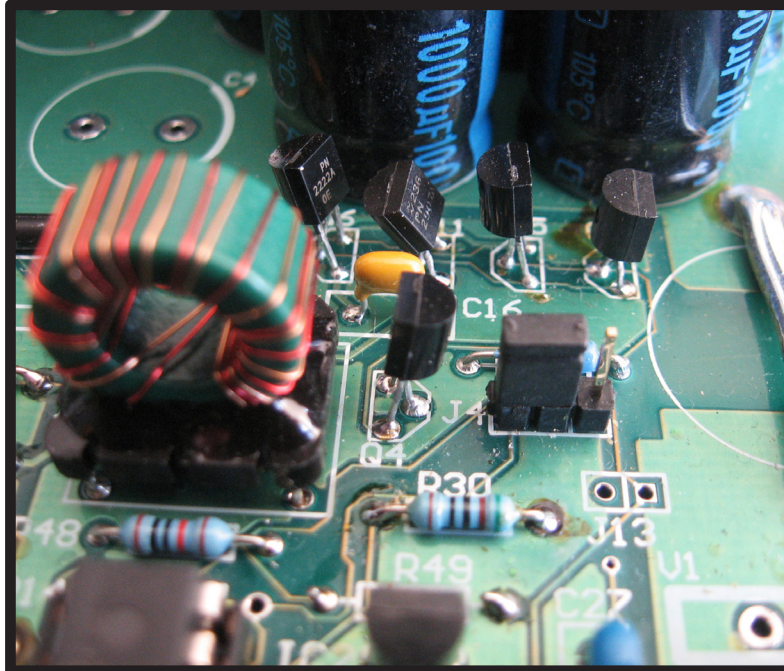

Figure 2 (Above): Vented Battery Setting
- 4.Move link on J4 to vented position or for Lithium mode completely remove link– **see Figure 2.**